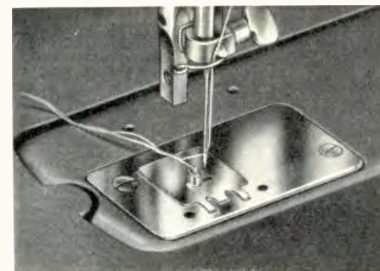

Fig. 44.
- b. Select eyelet embroidery cover plate with center stud matching the desired size of eyelet (1/8", 3/16" or 7/32" diameter, fig. 44) and place it on the needle plate.